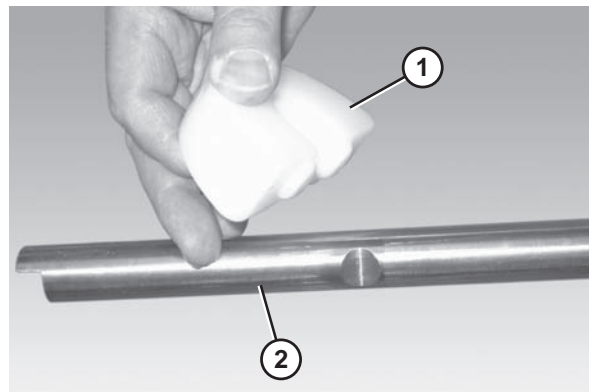

Figure 43
1. Attach the chain return shoes (Figure 43, item 1) to the return shaft (Figure 43, item 2).